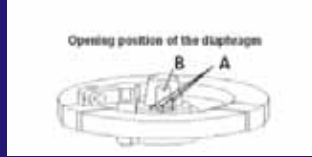

Figure 4: Hand wheel
**DO NOT OVER TIGHTEN THE HANDWHEEL** The hand wheel is intended to be tightened until "snug". Figure 4 shows the hand wheel with position indicator.